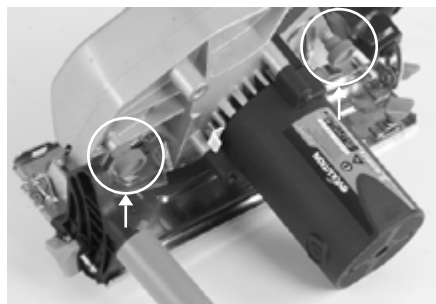

FIG 1
2. Remove the chip collector from the machine by undoing the (2) large thumb screws. (Fig. 1)